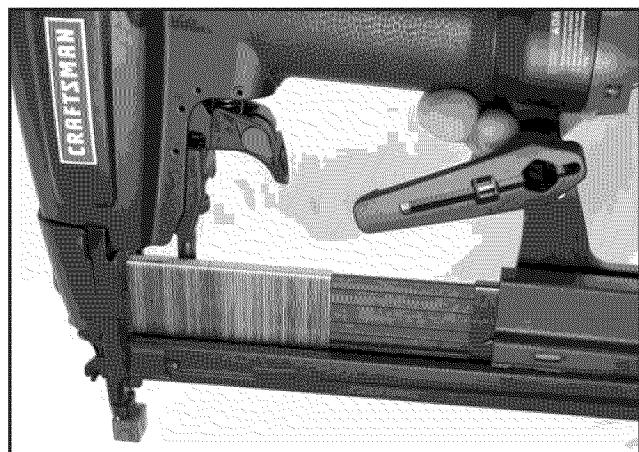

Figure 6—Loading Staples
- Loading Staples: Position staples so that the staple strip straddles and rests on the inner wall of the magazine. (See Figure 6).